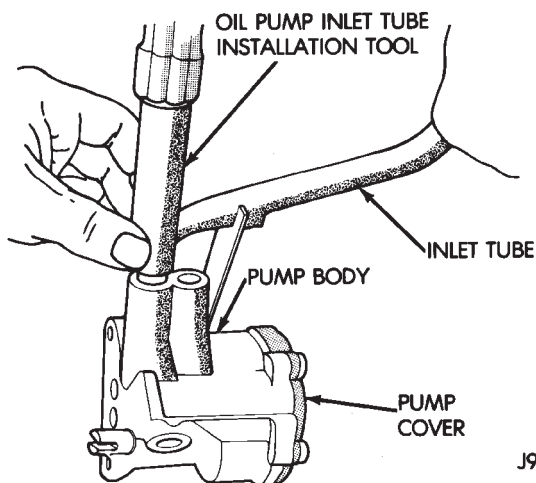

Fig. 8 Inlet Tube Installation Tool 7624 (J-21882)
(1) Install the oil pressure relief valve plunger, spring, retainer, and cotter pin.
(2) If the position of the inlet tube in the pump body has been disturbed, install a replacement inlet tube and strainer assembly. Apply a light film of Permatex No.2 sealant, or equivalent, around the end of the tube. Use Oil Pump Inlet Tube Installation Tool 7624 (J-21882) to drive the inlet tube into the body (Fig. 8). BE sure the support bracket is properly aligned.
(3) Install the idler gear and drive gear assembly.